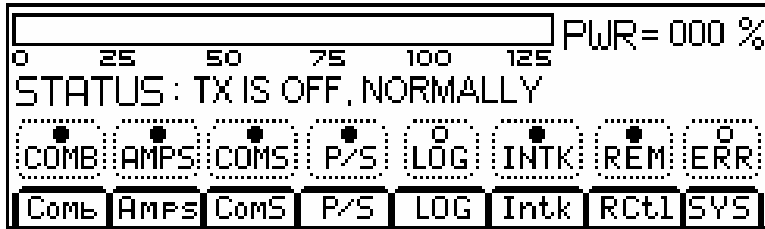

Figure 6 Main Menu
- On the LCD (see Main Menu display in Figure 6), the PWR should be at 000% and the STATUS should be TX IS OFF, NORMALLY.